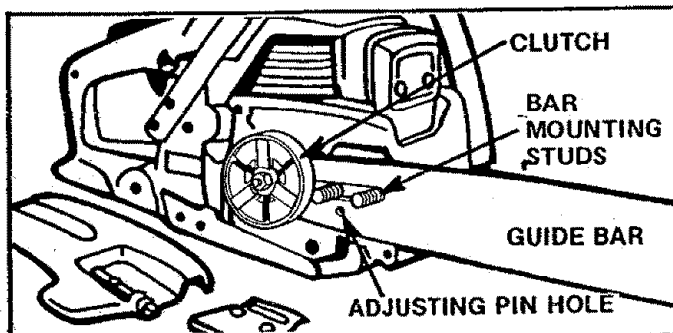
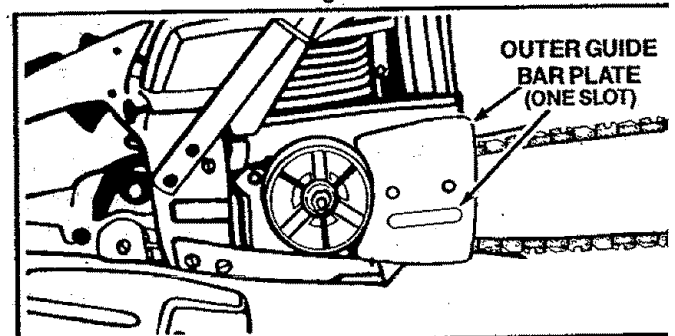
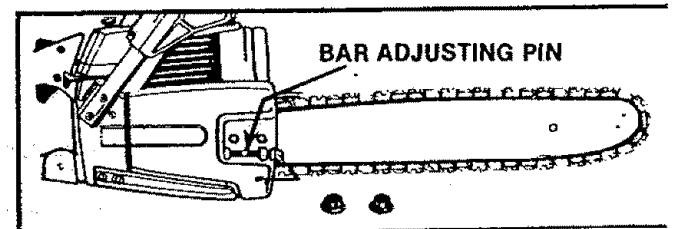

Figure 10
Figure 12
Figure 13
2. Mount the Guide Bar with the slotted end over the bar mounting studs. Figure 10.
8. Pull the Guide Bar forward until the chain is snug in the guide bar groove. Figure 12.
10. Slide the Bar Clamp Housing over the mounting studs and fit the bar adjusting pin (Figure 13) into the adjusting pin hole in the Guide Bar. Figure 12.
NOTE: Thread the bar adjusting pin (Figure 13, 14) in or out as necessary to fit the adjusting pin in the hole in the guide bar (Figure 10)